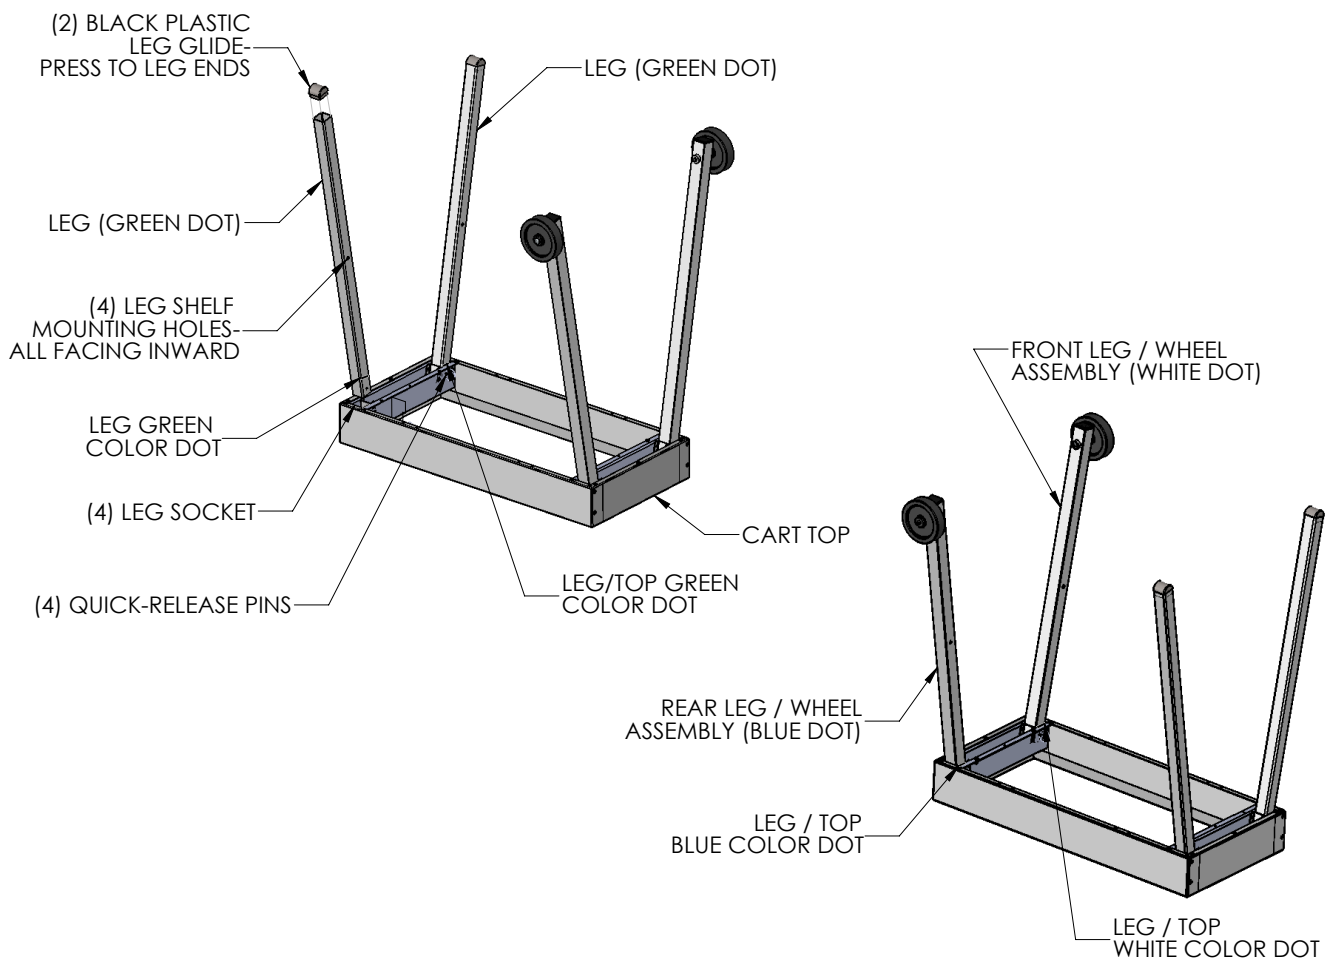

FIGURE 4 - LEG/TOP ASSEMBLY
- a. Place the grill cart top on the work surface with the leg sockets facing up. The dots will be visible along the sockets. Refer to figure 4.
- b. Remove the (4) quick release pins from the hardware kit.
- c. Slide each leg into the socket with the corresponding color mark, mating the dots of the legs to the dots of the cart top as shown in figure 4. The fit may be snug, you may need to wiggle the leg around to get it to seat fully.
- d. Slide (1) quick release pin into each hole in the side of each leg socket. Use caution while assembling to avoid slipping of the hand onto adjacent sheet metal edges. You may need to move the legs a bit to align the holes of the leg to those of the leg channel. The pins are installed fully when the ring on the pin is flush against the leg socket channel.